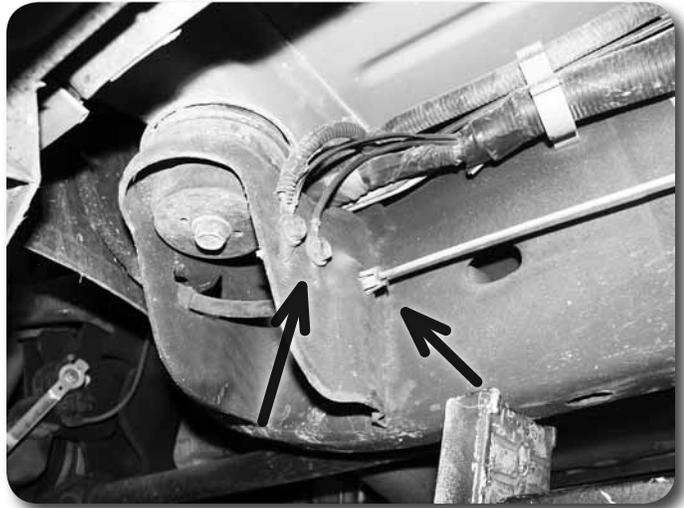

Figure 13
17. Remove the front half of the parking brake cable from the body mount. Compress the retaining tabs with pliers and push the cable through the hole Figure 13.